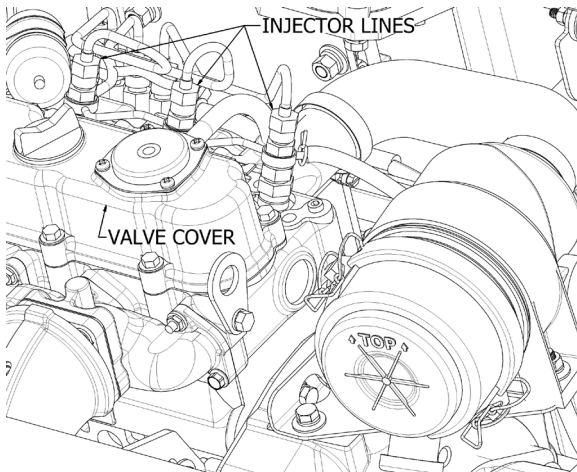

Figure 5.14 – Injector Lines (Main shield removed for clarity.)
3. Locate the injector lines under the main shield behind the engine valve cover. See Figure 5.14. Loosen the injector lines at the three injectors.